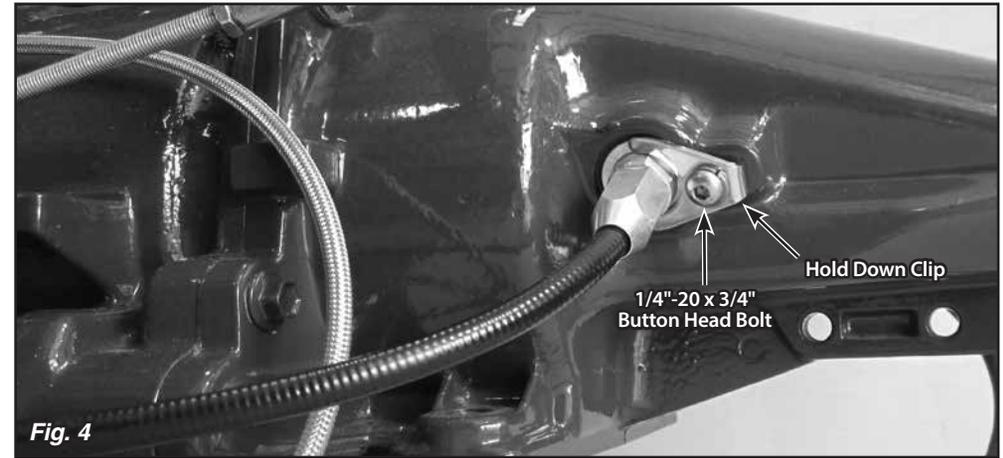

Fig. 4
**Step 6:** Lubricate the o-ring with a light coat of the oil or fluid that is correct for your transmission, and install the hold down fitting into the transmission. Install the hold down clip using the provided 1/4"-20 x 3/4" button head bolt and lock washer. **Fig. 4**